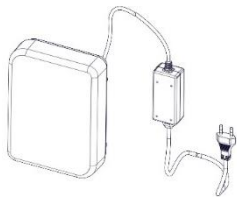

Figure 3
4. Close the cover (see Figure 3).